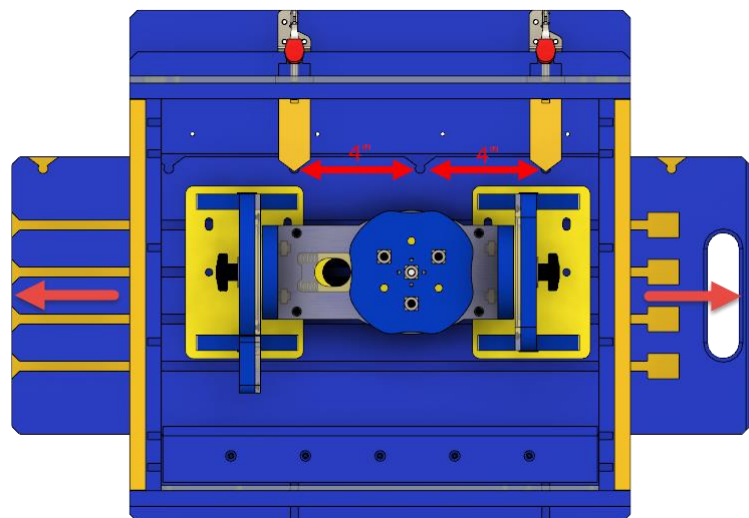

Figure 9
- 4) Slide the accessory base tray into the accessory base frame. The yellow pins on the frame should be aligned with the V-grooves on the tray (Figure 9).
- 2) Slide the accessory base tray in increments of 4" between the V-grooves on the accessory base tray (Figure 9).
Material geometry is limited to a cylinder of diameter 4 inches (however the Handibot has a Z-travel of only 3.25 inches). Part length should be limited to 8 inches without indexing, and 16 inches if the part does require indexing (Figure 9).